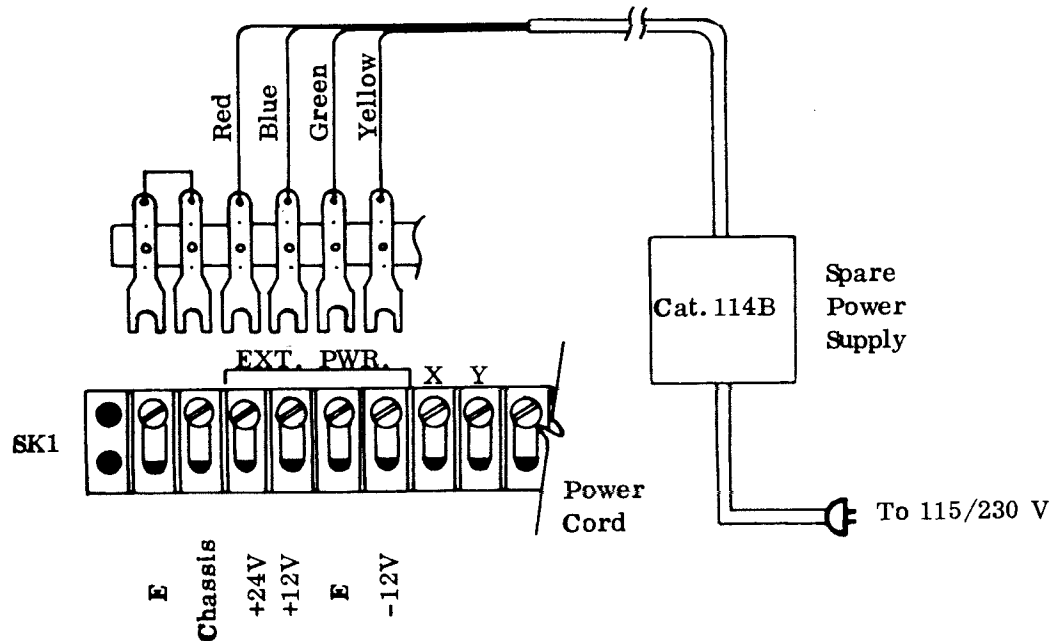

Fig. 7.9.1
- 7.9.4 Attach the fanning strip to the "Ext. Pwr." terminal block (SK 1) on the CP50, as indicated in Fig. 7.9.1, leaving E to Chassis link in place, if fitted.